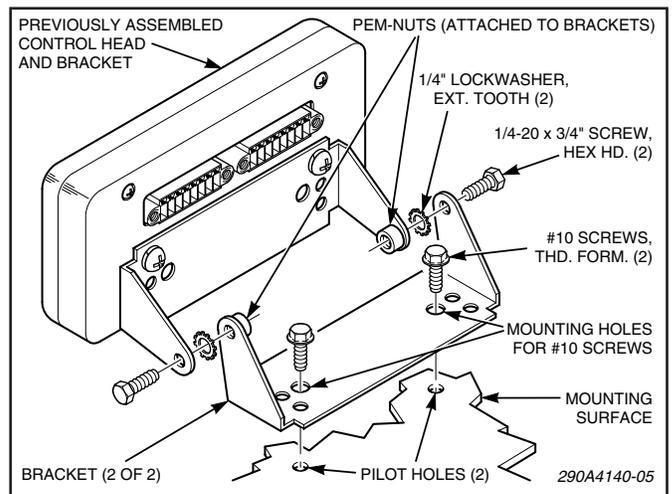

Figure 3-4.
- A. Assemble a bracket to the control head using the 6-32 x 1/4 screws and #6 lockwashers. Assemble the other bracket to the control head/bracket assembly using the 1/4-20 x 3/4 hex head screws and 1/4" lockwashers as shown in figure 3-4.
D. Secure the mounting bracket to the mounting surface with the #10 thread-forming screws as shown in figure 3-4.